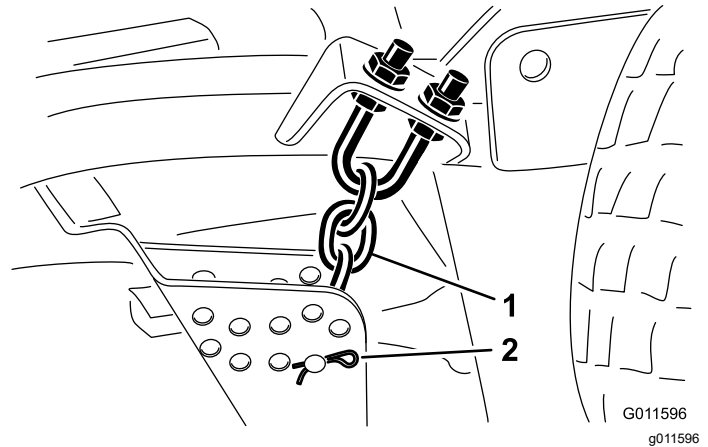

Figure 19
9. Remove the hairpin cotter and clevis pin securing the height-of-cut chains to the rear of the cutting unit (Figure 19).